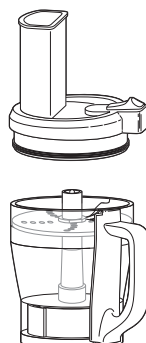

Fig. 9
- 6 Holding the lid by the feeder tube, place it on top of the bowl aligning the on/off switch with the bowl's handle. (Fig. 9)